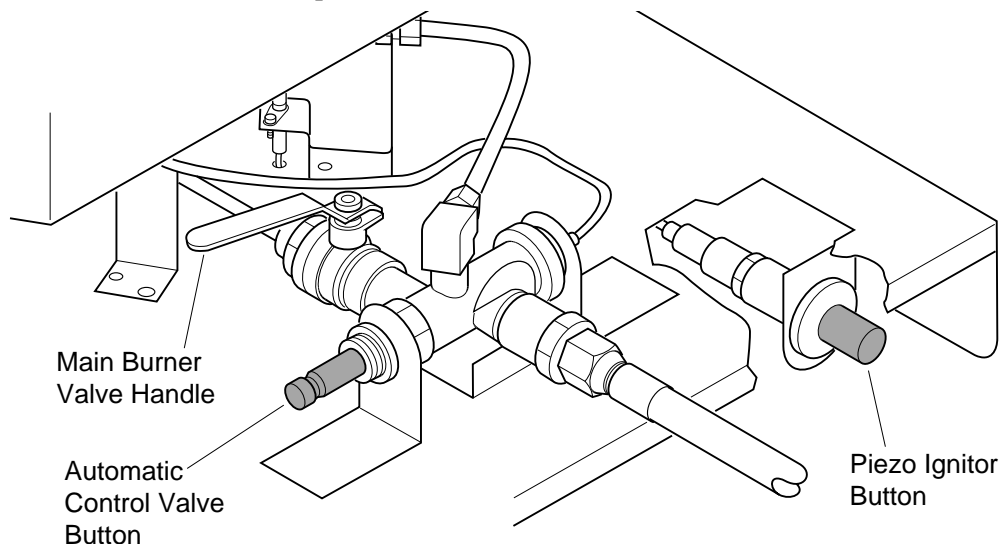

Figure 4 - Main Burner Valve Handle, Automatic Control Valve Button, and Piezo Ignitor Button Locations
4. Push in and hold automatic control valve button (see Figure 4). Push piezo ignitor button (see Figure 4). You may need to push the piezo ignitor button 3-8 times until the pilot lights. *Note:* Hose may be filled with air. If so, keep automatic control valve button pressed and wait 20 seconds for propane to clear before pressing ignitor button again. When pilot lights, keep automatic control valve button pushed in. Release button after 30 seconds.